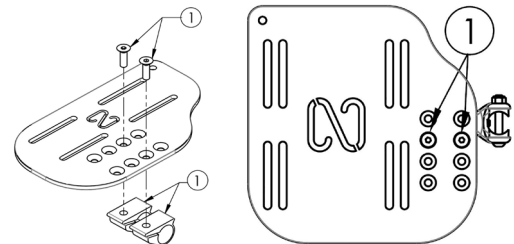

Fig. 24.3
- Loosen screws (1) (Fig. 24.3).
- Tighten screws (1) firmly.